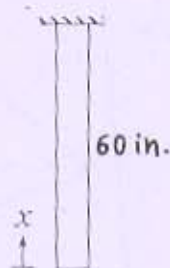

Figure 1
- Q - 2 Using any one of (i) Galerkin's weighted residual method, or (ii) potential energy approach, for the bar hanging under its own weight as shown in Figure 1, determine the nodal displacements at selective points along the length of the bar. Let bar cross-sectional area, $A = 1 \text{ in.}^2$, modulus of elasticity, $E = 30 \times 10^6 \text{ psi}$, and weight density, $\rho_w = 0.283 \text{ lb/in.}^3$. Here, lb, in., and psi respectively denote pounds, inch, and pounds per square inch. [14]
- Q - 3 For the bar hanging under its own weight as shown in Figure 1, determine the strains, [14]